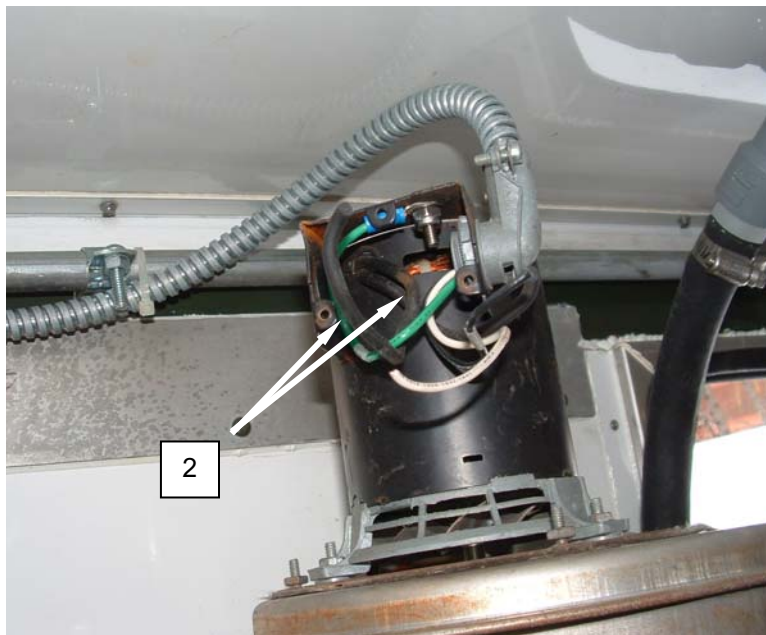

Figure 1. Test the Draft Inducer Motor.
2. Remove screws retaining junction box cover (**Figure 1, Item 1**), and remove cover.
3. Tag and cut wiring (**Figure 1, Item 2**).
4. Use an ohmmeter to test for 0 - 10 ohms resistance between motor leads (**Figure 1, Item 2**).
5. Use an ohmmeter to test for infinite resistance between each motor lead (**Figure 1, Item 2**) and ground.
6. Connect wiring (**Figure 1, Item 2**) as tagged.
7. Install junction box cover (**Figure 1, Item 1**), and retain with screws.